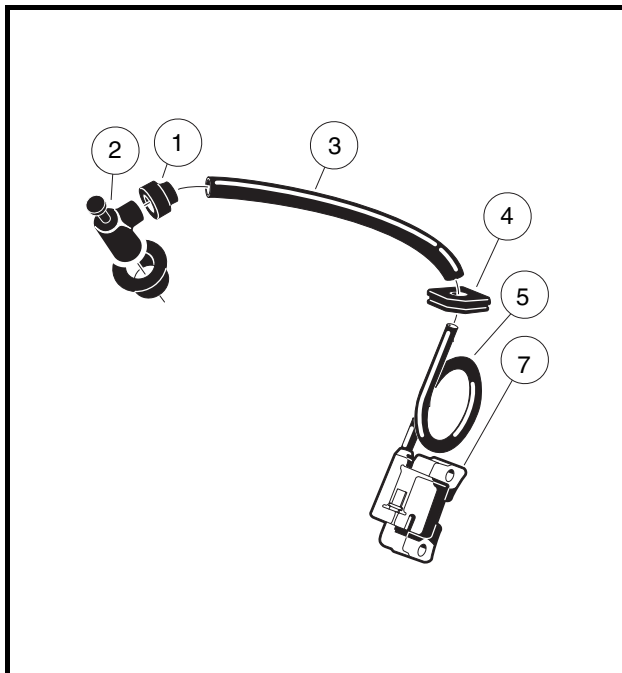

Figure 11-26 Ignition Coil and Cap
- 5.1. Remove the rubber gasket (1) on the plug cap (2) by rolling back the gasket onto the spark plug wire (3) (**Figure 11-26, Page 11-24**).
- 4.1. Remove the rubber gasket (1) on the plug cap (2) by rolling back the gasket onto the spark plug wire (3) (**Figure 11-26, Page 11-24**).